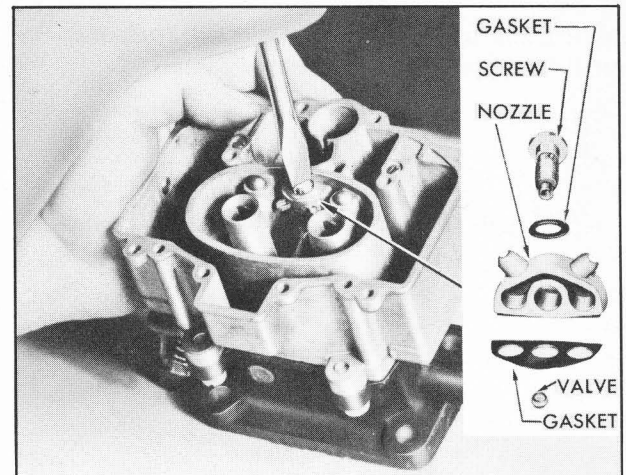

Figure 3-81—Removing Pump Discharge Nozzle
12. Remove pump discharge nozzle screw, nozzle and gaskets. See figure 3-81. Place hand on top of main body and invert body to catch the check valve ball.